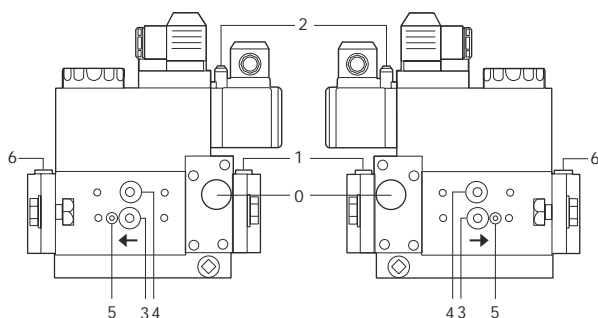
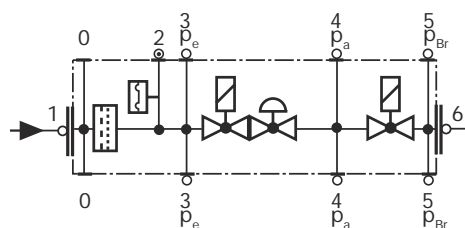

Fig. 38
Fig. 39
- Clean and check the gas filter cartridge, if necessary replace it (Fig. 38 on).
- Change the filter if the pressure difference between pressure connection 1 and 3 (Fig. 38-Fig. 39) is $\Delta p > 10$ mbar.
- Change the filter if the pressure difference between pressure connection 1 and 3 (Fig. 38-Fig. 39) is twice as high compared to the last check.